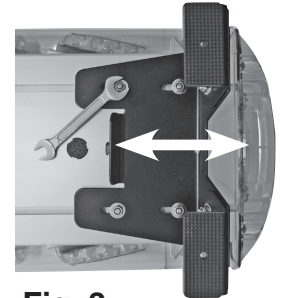

Fig. 3
7. Position the light bar back onto the roof of the vehicle. There are two adjustable brackets located on the bottom of the light bar. The installer will need to adjust the location of the two brackets, each having two-(2) rubber pads, to be close to the edge of the roof. **IMPORTANT:** Always make sure that each of the protective rubber pads are in full contact with the roof. To adjust each bracket, loosen the four 10mm bolts, slide the bracket into position, and tighten the bolts securely. Repeat the same procedure for the bracket on the other end of the light bar. See fig. 3.